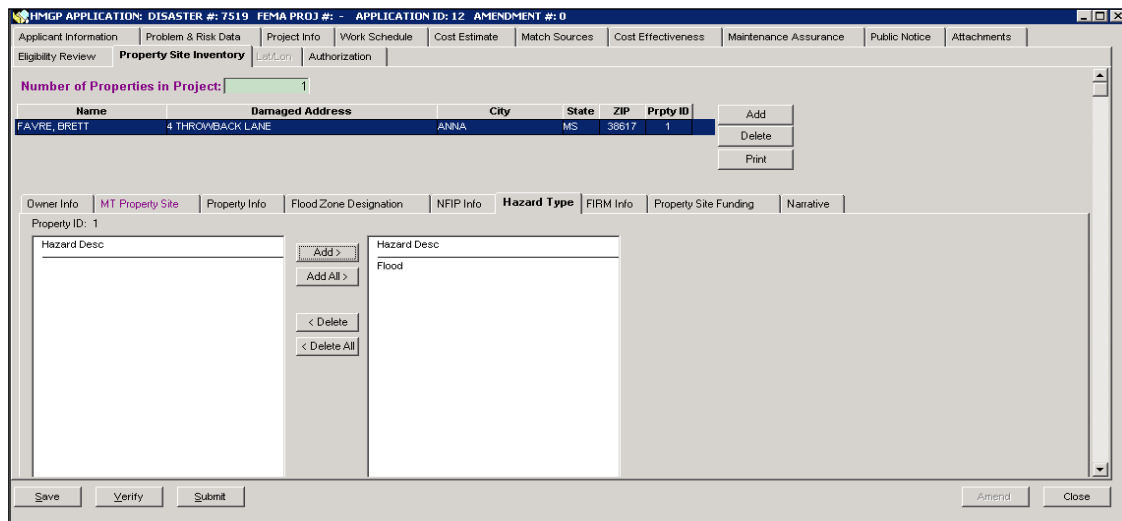

Figure 6-97: Hazard Description Added
- b. Click the ADD or ADD ALL (if you highlighted more than one row) button. The Hazard Description(s) you selected is (are) now displayed on the right side (Figure 6-97).